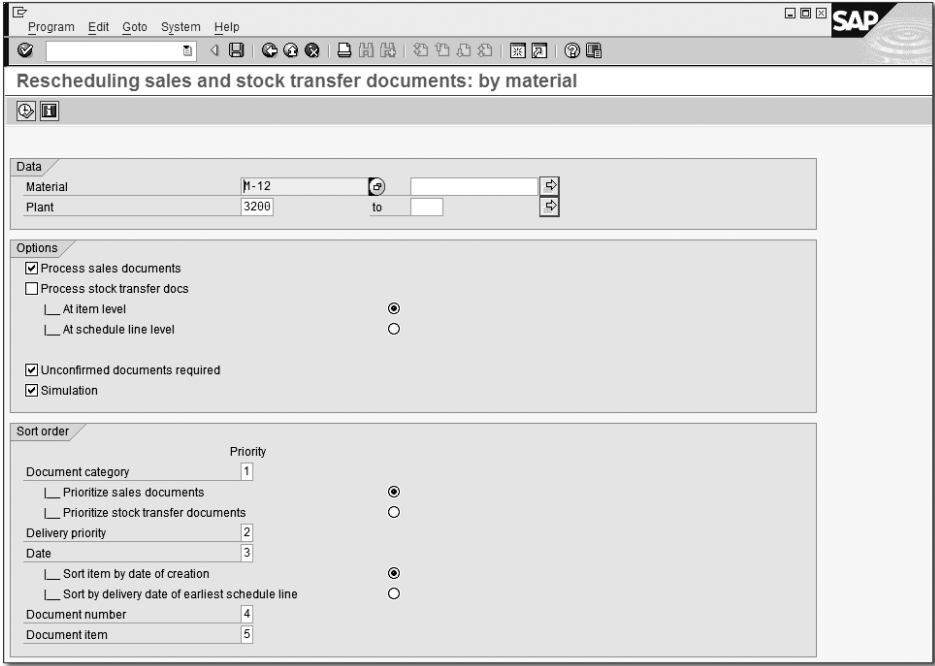

Figure 3.30 Rescheduling Execution Transaction Initial Screen
you set a variant that will be executed at the scheduled time. As an example, you can set your criteria on the initial screen of the rescheduling transaction and run it in the foreground, as shown in Figure 3.30. Let's walk through an example of rescheduling in the foreground mode.
2. In the OPTIONS section, select what kind of documents you're rescheduling. Select PROCESS SALES ORDERS, as shown in Figure 3.30. If you want to include stock transfer documents, you also need to specify if the line item or a schedule line detail will be taken into consideration.